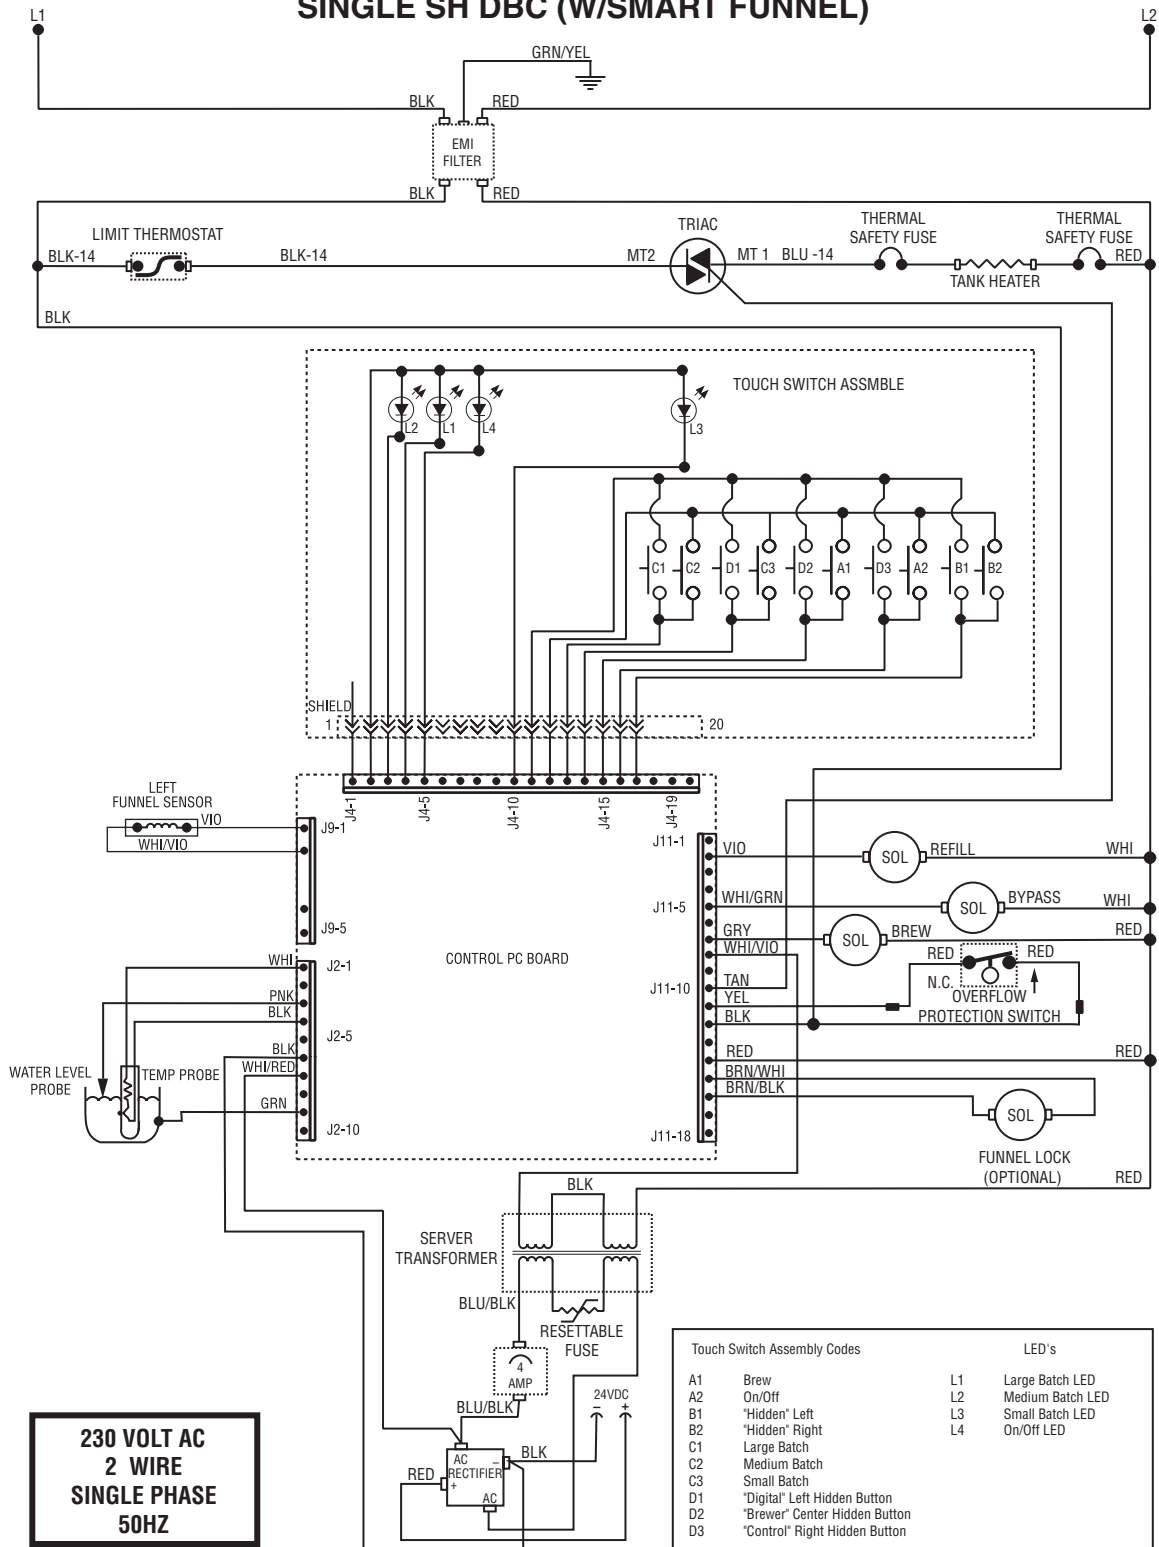

FIG 14 REMOVE BOTTOM COVER
- Remove two screws (Fig 14) securing bottom cover to server, remove bottom cover from server.